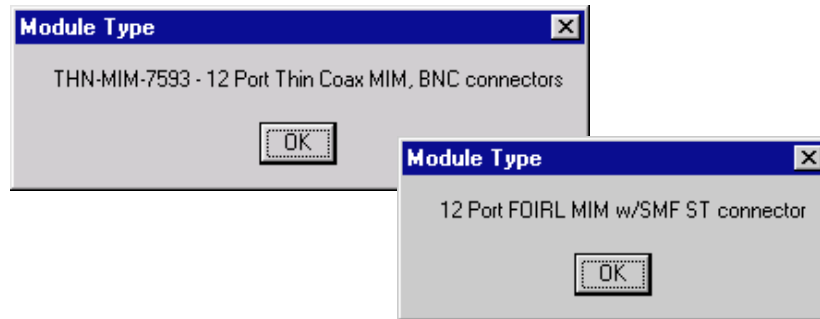

Figure 2-6. Sample Module Type Text Boxes
2. Drag down to **Module Type....** A Module Type text box, similar to the examples shown in Figure 2-6, will appear describing the board type. If Module Type is not supported by the selected board, “Unknown” will appear in the text box.